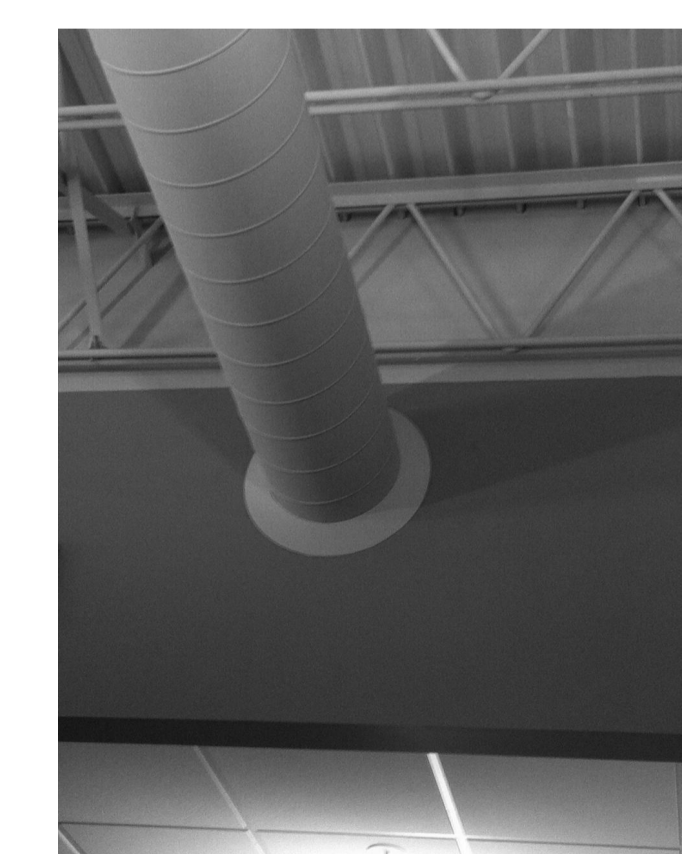

FIGURE 2
- ALL EXPOSED CEILING FIXTURES/DUCTS/GRILLES THAT ARE VISIBLE BELOW JOISTS ARE TO BE PAINTED P3. WHERE FIXTURE MEETS WALL, THE WALL SHALL BE THE PAINT COLOR OF THE WALL AS INDICATED ON FINISH PLANS. FINISHED PAINT DETAIL SHOULD LOOK LIKE FIGURE 2.